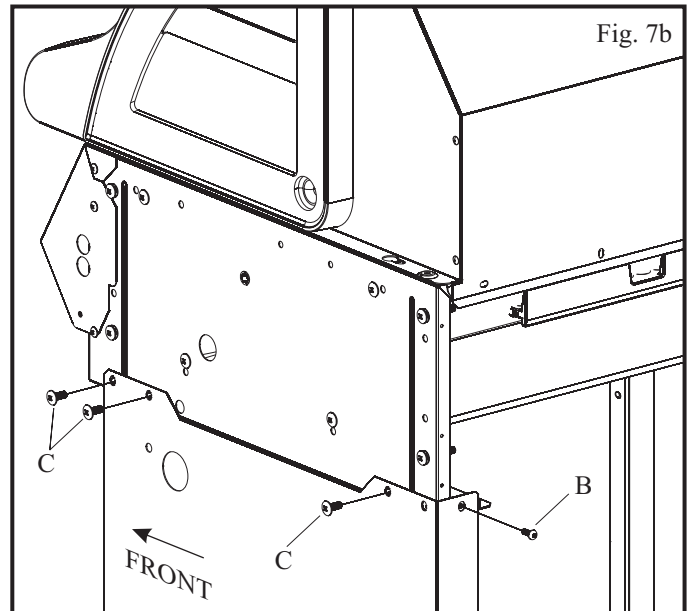

Fig. 7b
B. Once the Main Unit is fitted on top of the cabinet, insert two (2) #10-24 Bolts through the U-clips installed at the back of the grill head. Securely tighten the bolts.
C. Insert one (1) 1/4-20 x 1/2" Bolt into each of the three holes at the top of the Cabinet Sides (3 bolts per side) as shown in Fig. 7b. Do not tighten these bolts yet; leave them about 1/2 threaded into the holes.